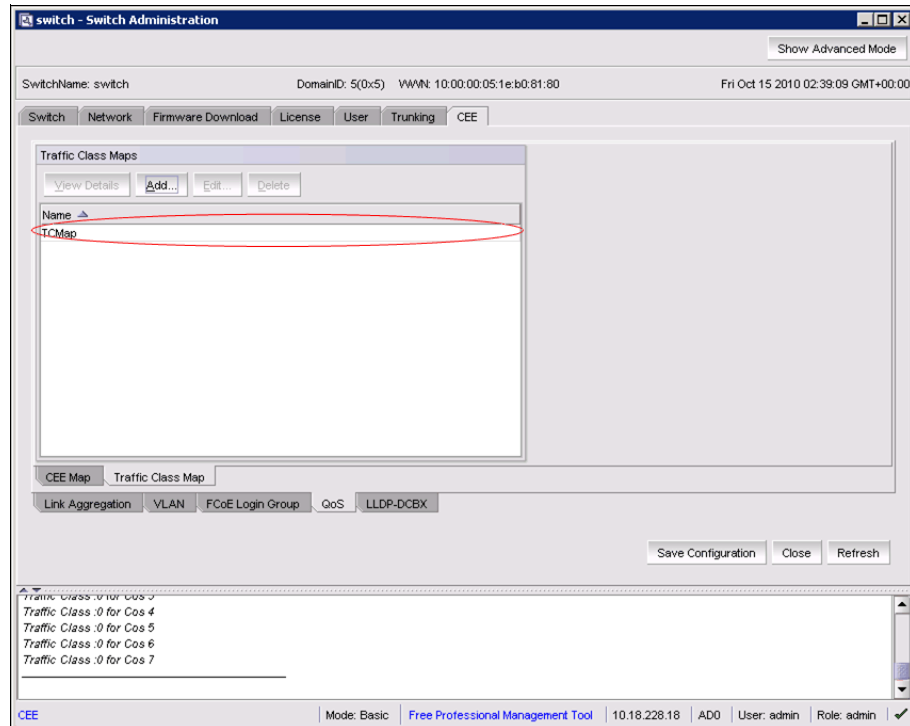

Figure 5-13 New Traffic Class Map
4. Click **OK**. The new map is displayed in the Traffic Class Maps window (Figure 5-13 on page 159).